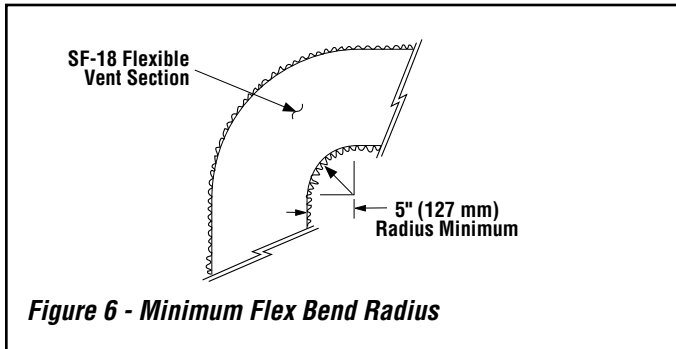

**Figure 5 - Framing Dimensions for Roof**
**Step 4.** Identify location for vent at the roof. Cut and/or frame opening according to the dimensions shown in the Roof Framing Chart. Frame all vent holes with 2" x 4" or larger lumber. See **Figure 5**.